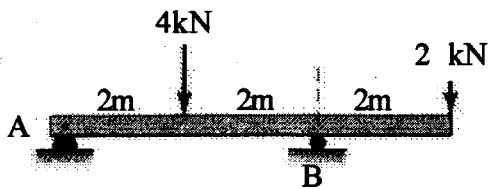

Fig 8
c) Draw the shear and moment diagrams for the beam loaded as shown in Fig 8